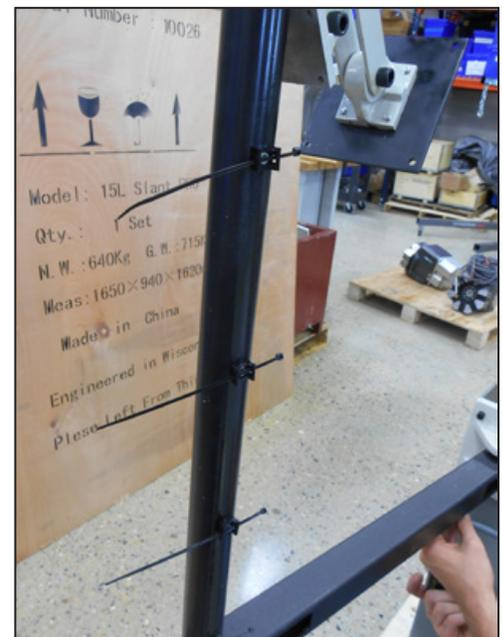

Figure 2.17
9. Use four M4 x 8 mm flat head screws to attach four wire tie mounts to the round monitor post (see **Figure 2.17**).